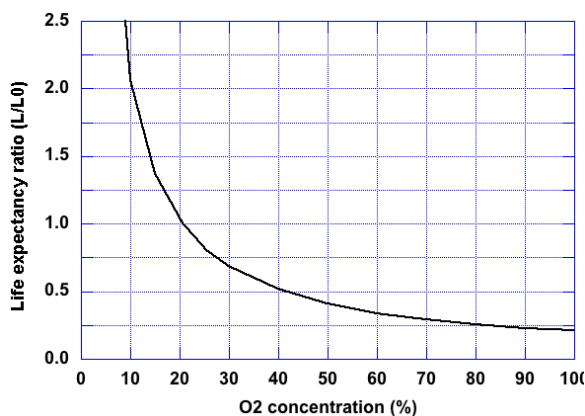

Fig. 8a - Relationship of life expectancy vs. O2 concentration (L0 = life at 21% O2)
Figure 8a shows the relationship between life expectancy and O2 concentration for KE-LF sensors. The Y-axis indicates the ratio of life expectancy in a given O2 concentration (L) to life expectancy in natural air (L0). The greater the O2 concentration, the shorter the life expectancy. The influence of atmospheric pressure on life expectancy is estimated based on the O2 concentration in a given atmospheric pressure.